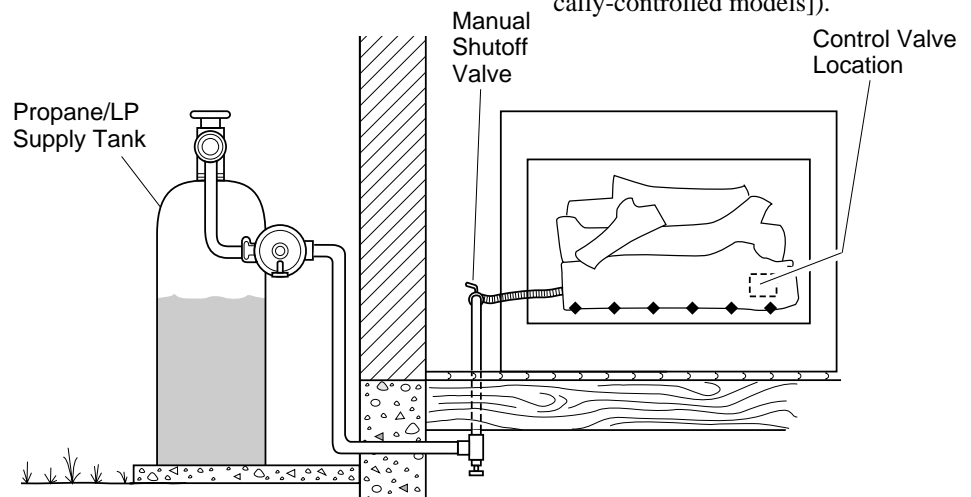

Figure 16 - Checking Gas Joints
3. Check all joints from propane/LP supply tank to manual shutoff valve (see Figure 16). Apply mixture of liquid soap and water to gas joints. Bubbles forming show a leak.
4. Check all joints from manual shutoff valve to control valve (see Figure 16). Apply mixture of liquid soap and water to gas joints. Bubbles forming show a leak.